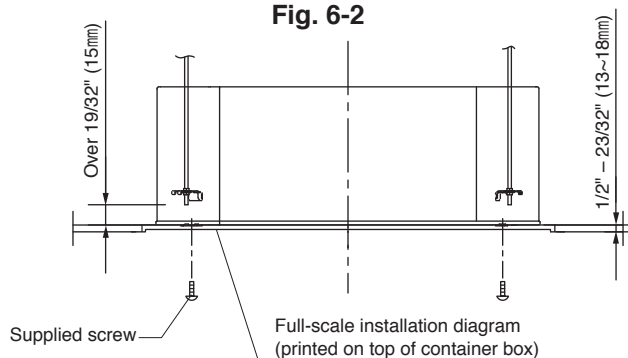

Fig. 6-4
- (4) Thread the 3 hexagonal nuts (locally purchased) and 2 supplied washers onto each of the 4 suspension bolts as shown in the diagram. Use 1 nut and 1 washer for the upper side, and 2 nuts and 1 washer for the lower side, so that the unit will not fall off the suspension lugs. (Fig. 6-4)
- (5) Adjust so that the distance between the unit and the ceiling bottom is $1/2"$ (13 mm) to $23/32"$ (18 mm). Tighten the nuts on the upper side and lower side of the suspension lug. (Fig. 6-4)